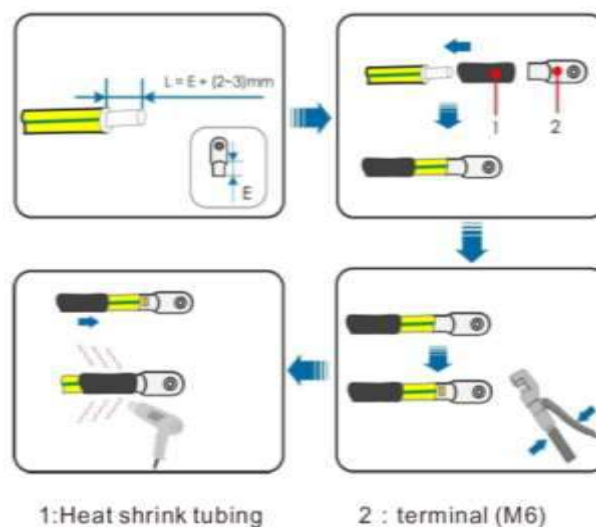

Fig. 4-23 Cable and terminal preparation
- 1) Prepare the cable and terminal (Fig. 4-23).